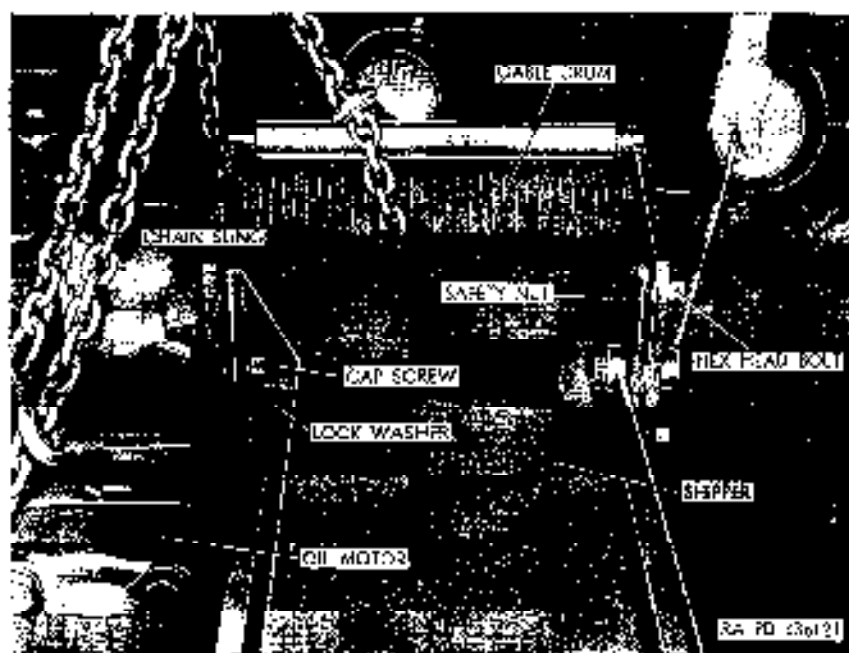

Figure 397. Removing boom hoist hydraulic oil motor and cable drum from M102 and M240.
- (1) Remove hoist cable from drum (c below).
- (2) Attach a chain sling (fig. 397) to oil motor and cable drum assembly, attach overhead hoisting equipment to sling, and fasten support weight of assembly with hoist.
- (4) Remove three cap screws (fig. 397) and lockwashers securing right end of cable drum to shipper.
- (5) Remove three safety nuts (fig. 397) and hex-head bolts securing left end of cable drum to shipper, lift oil motor and drum assembly from shipper, and remove from vehicle.
- (1) Using overhead hoisting equipment, lift boom hoist by hydraulic oil motor and cable drum (fig. 397) into position at rear of shipper.
- (2) Align mounting holes in left end of cable drum with holes in shipper (fig. 397), and insert three hex-head bolts through holes. Install three safety nuts on bolts and tighten.